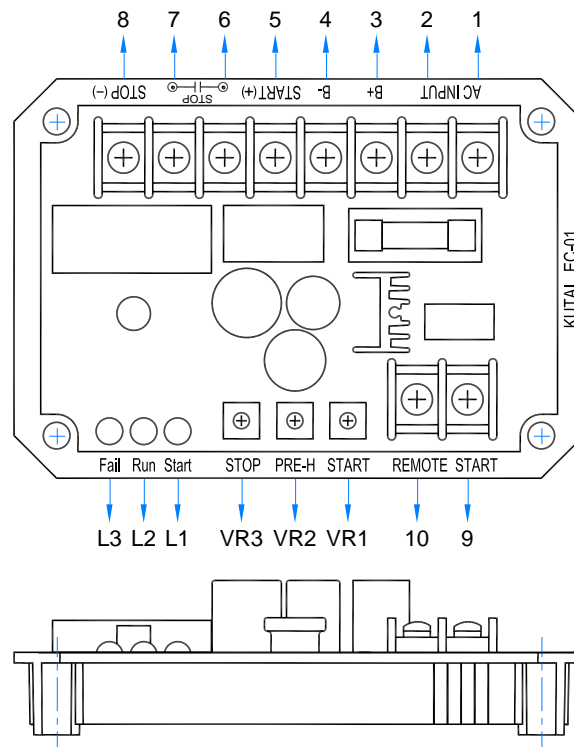

Figure 2 Terminal Diagram
- 4.1 Terminals 1 & 2 : Generator AC power input (110V/220V). When AC input voltage frequency reaches 18 Hz or higher the controller will cut the signal to the starter motor. (Refer to Figure 2 Terminal Diagram)
- 4.2 Terminal 3 : connects to the “ + ” terminal of the generator battery (12V/24V). Max Input volt 40 Vdc (Refer to Figure 2 Terminal Diagram)
- 4.3 Terminal 4 : connects to the “ - ” terminal of the generator battery (12V/24V). (Refer to Figure 2 Terminal Diagram)
- 4.4 Terminal 5 : Starter motor output. Output during engine start (+) 12V/24V, 6A DC (Refer to Figure 2 Terminal Diagram)
- 4.5 Terminals 6 & 7 : Engine Stop auxiliary contacts. This is a set of dry contacts (i.e. no voltage signal). These terminals will be shorted when the engine is not running. The contacts will be in an open state until the Stop countdown timer is complete (Refer to Figure 2 Terminal Diagram)
- 4.6 Terminal 8 : Engine Stop signal output. When engine is stopped this will be a negative (-) voltage. During engine shut down process this terminal will not have a voltage. (Refer to Figure 2 Terminal Diagram)
- 4.7 Terminals 9 & 10 : Remote Engine Start input signal. When these terminals are shorted the engine is in cranking mode. When open the engine is in a stop state. (Refer to Figure 2 Terminal Diagram)
- 5.1 **VR1 : Engine Start Cranking Time.** Setting range of 1 to 20 seconds. The cranking time increases with clockwise (CW) adjustment. For initial installation please refer to the generator User Manual to obtain recommended cranking time. In general a setting of 4 to 8 seconds is recommended. (Refer to Figure 2 Terminal Diagram)
- 5.2 **VR2 : Engine Cranking Time Interval.** This is the time interval between engine start attempts with a range of 1 to 10 seconds. In general a setting of 5 seconds is recommended. (Refer to Figure 2 Terminal Diagram)
valve. For initial installation please refer to the generator User Manual to obtain the start time. In general, an engine shut down time of 3 to 5 seconds is recommended. (Refer to Figure 2 Terminal Diagram)
- 6.2 **L1 : Remote Start LED.** When the engine start contacts close this lamp will illuminate, indicating that an engine start signal has been received from the ATS (Refer to Figure 2 Terminal Diagram).
- 6.3 **L2 : Engine Running LED.** During remote engine start sequence this lamp will illuminate when the generator AC input voltage frequency reaches 18Hz or greater (Refer to Figure 2 Terminal Diagram).
- 6.4 **L3 : Engine Fail to Start LED.** This lamp will illuminate if the engine fails to start within a preset number of crank attempts or fails to establish rated AC voltage. The control unit will execute engine stop procedure. (Refer to Figure 2 Terminal Diagram).